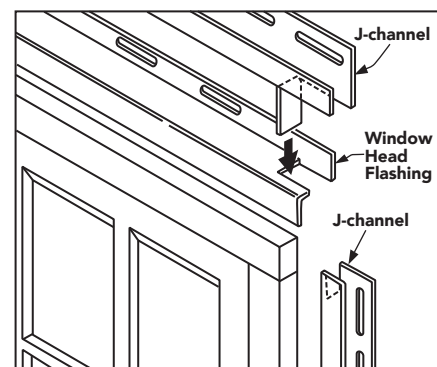

Figure 31
- Install rigid head flashing (i.e., drip cap) on top of the top piece of exterior casing, covering trim sheet installed in the previous step. The ends of the rigid head flashing must extend to the outer edges of the exposed legs of the side J-channels. Cut a notch on the ends of the rigid head flashing and bend them down over the sides of the exterior casing. The rigid head flashing must be sealed to the exterior sheathing and to the top of the exterior casing (Figure 31).
- Miter cut the free flange at a 45° angle and bend the tab down to provide flashing over the side members (Figure 31). A similar miter and tab may be provided at the bottom of the window, depending on the sill's condition. The J-channel should fit snug to the window.